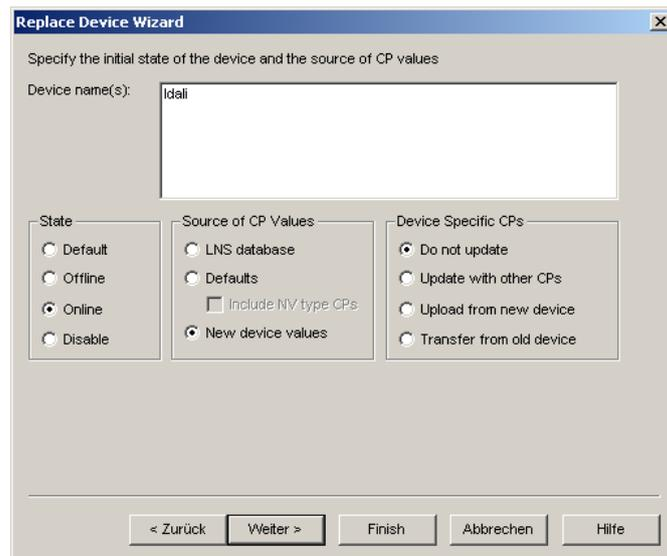

Figure 94: Select online state and source of CP values.
5. Then select **Online** for State and **New Device Values** for “Source of CP Values” as shown in Figure 94 and click **Next**.